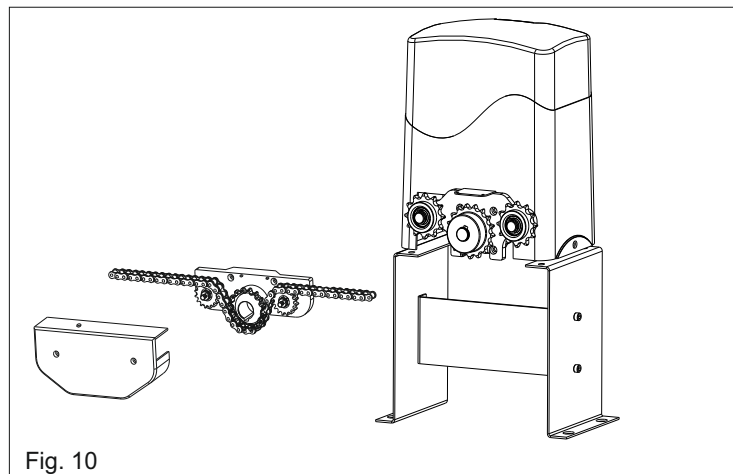

Fig. 10
The assembling of the main parts which include the whole chain automation is illustrated in Fig. 10.
**6.2.** Install the chain making it pass through the pinion group as in Fig.10.